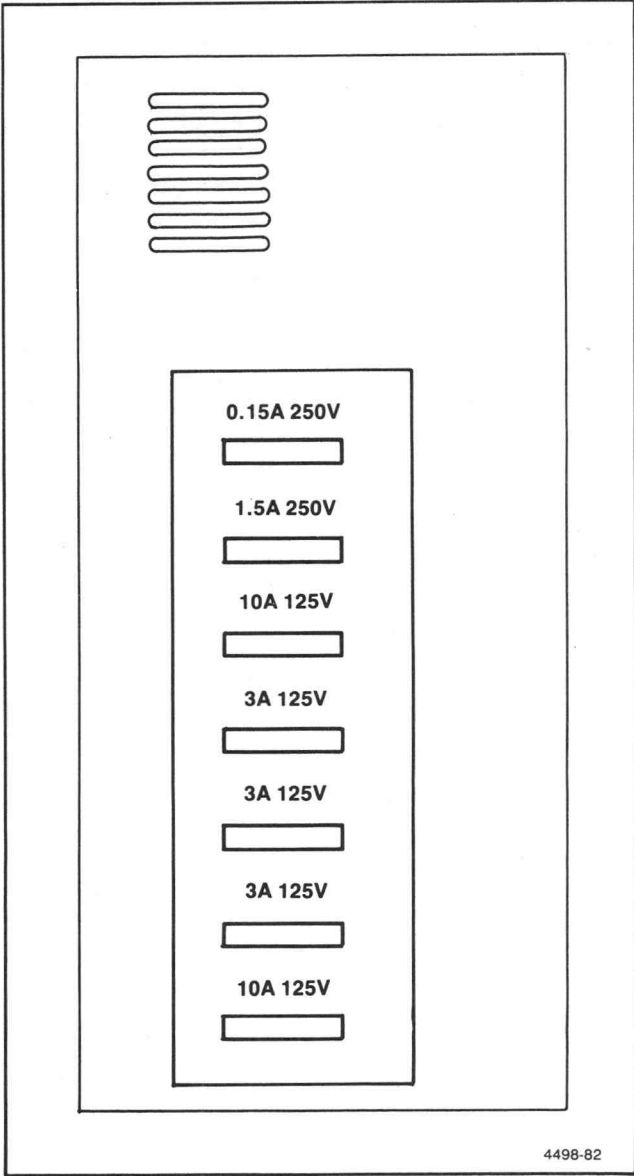

Figure B-1. Power Supply Fuses.
B. Seven fuses in the Power Supply (see Figure B-1):